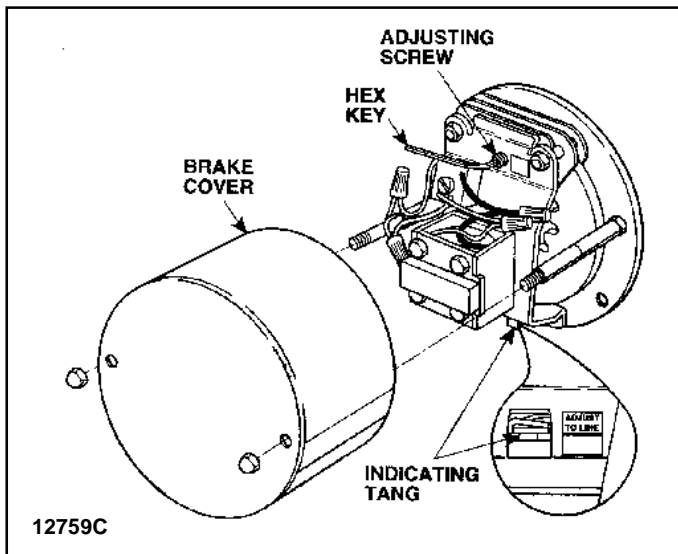

Figure 7-1A. Motor Brake - Later Version
b. On the later version of the brake (Figure 7-1A), if the tang is below the line by more than 1/8", the brake should be adjusted to bring the top of the tang back up alongside the line on the adjust label.